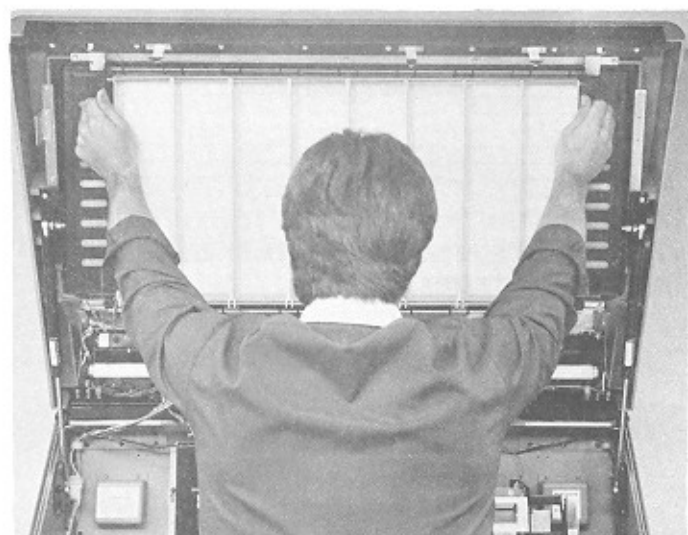

Figure 3-3. Lowering Title Panel
2. Release the title panel as shown in Figure 3-3.